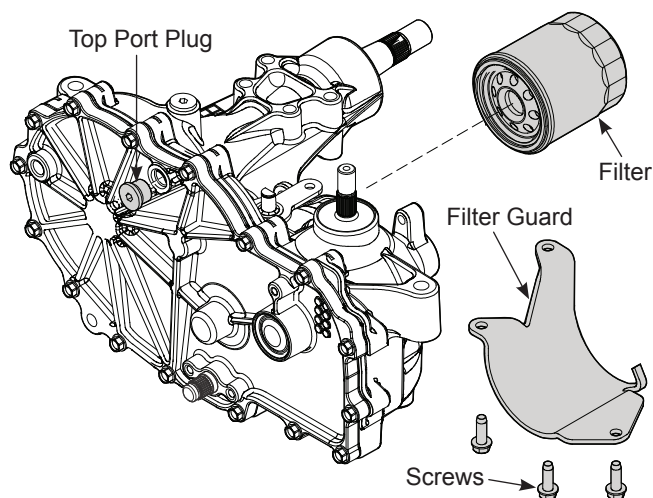

Figure 6, Filter And Filter Guard
8. Remove the top port plug (figure 6) from the left side and right side transaxles prior to filling with oil. This will allow the transaxles to vent during oil fill.